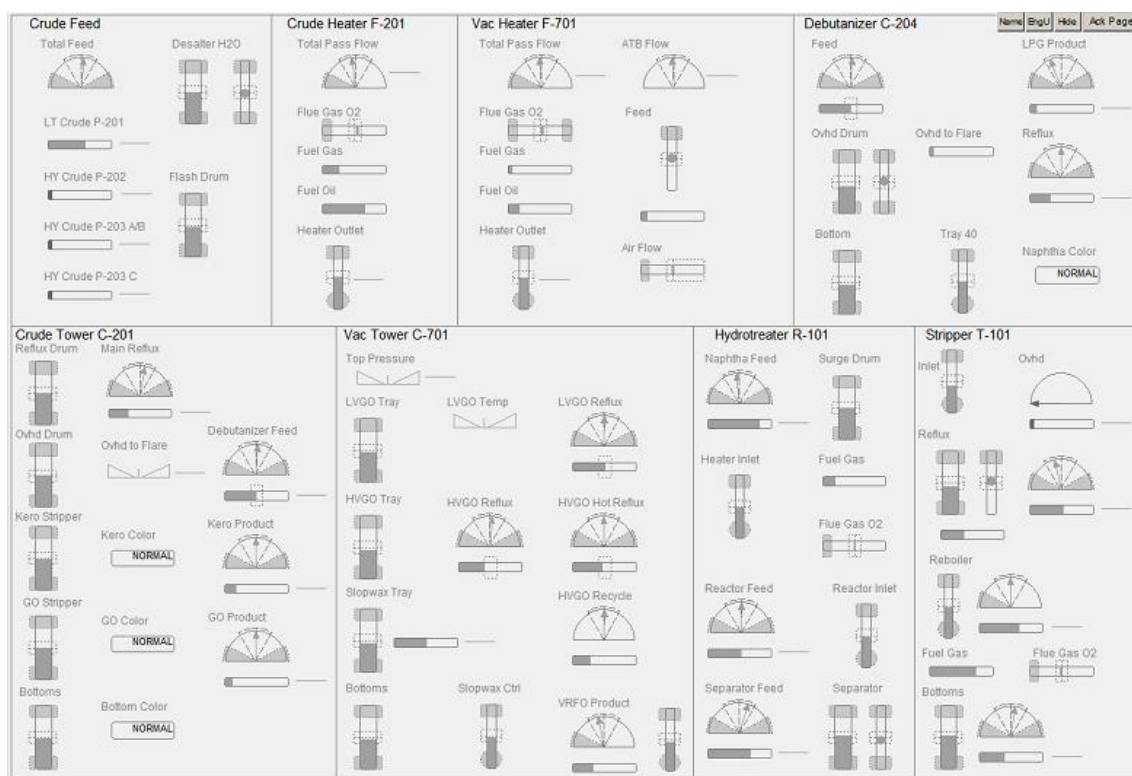
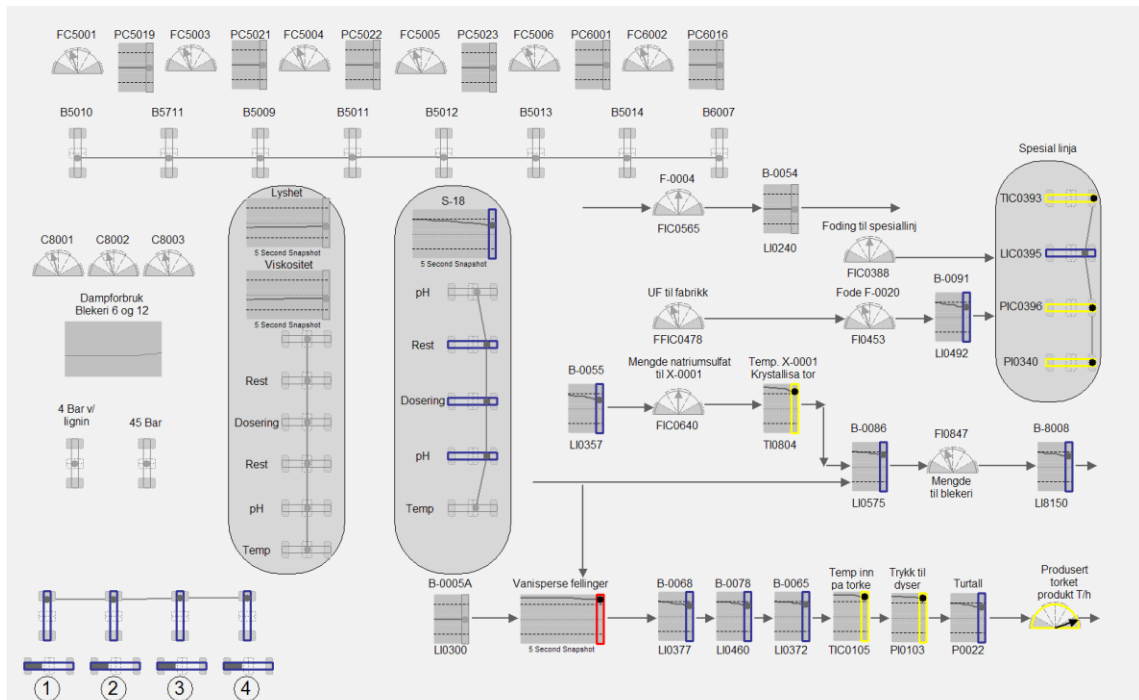

Figure 2: Example Level-1 Process Area Overview Display
Figure 3: Example Level-1 Process Area Overview Display
Alignment, font size, separation, and color ensure visibility, and care should be taken to ensure visual noise on the display is not a distraction. Illustrations of Level-1 displays are shown in Figure 2 and Figure 3 below.
The example display in Figure 3 shows the main process flow and main equipment organized on the display consistent with their functional relations in the plant, that is, the left-to-right, top-to-bottom. This L1 display uses the “Visual Thesaurus” analog gauges, trend objects and horizontal and vertical profile lines.
**Notice!** Please note that the graphical objects used in Example Overview display in Figure 2 and Figure 3 are part of the Advanced HMIWeb Solution Pack library which is a licensed option.